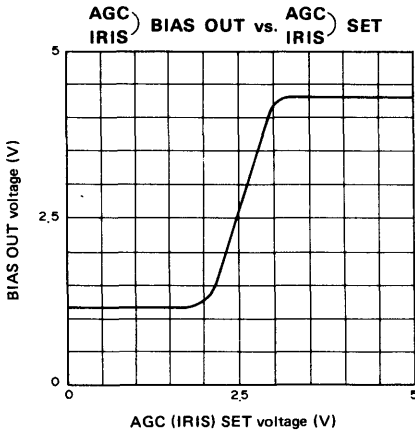

Fig. 5
Measure the output voltage of pins (2) and (29) when the E3 and E4 voltages are varied from 0 to 5V. (Fig. 5)